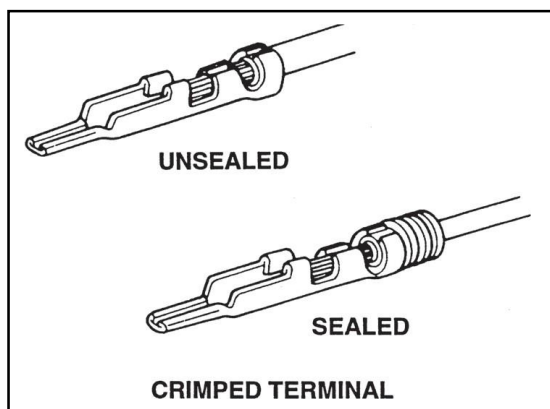

Figure 14
5. Using the appropriate crimping tool, crimp core wings (Figure 14). Use good judgment when applying force. Adhering to the following requirements will help to achieve a good core crimp: